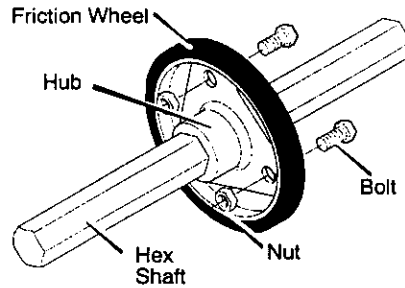

Figure 35
6. Remove the three fasteners that hold the friction wheel to the hub. See Figure 35.
9. Remove the friction wheel from the hub. Slip the friction wheel toward the right off the hex shaft. See Figure 35.